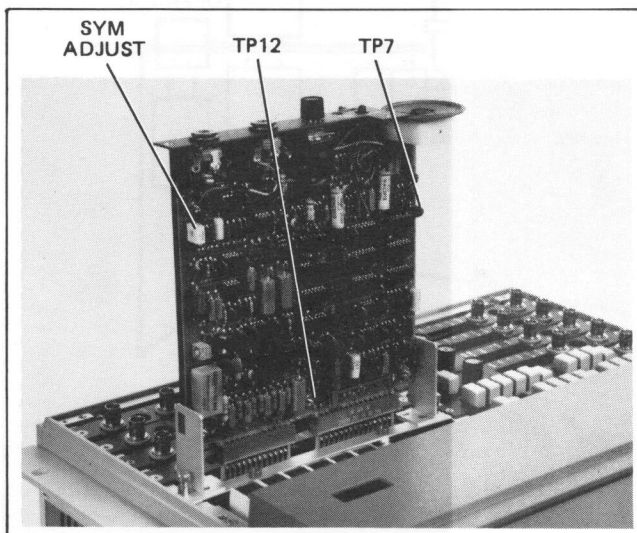

Figure 5-19. Servo Phase Balance (SYM) Adjustment
- b. Remove Voice Channel/Servo Loop PCA A8 and re-install it on the large extender card (03968-60965) (see Figure 5-19).
- c. Connect the oscilloscope HI input to TP7, and the LO input to TP12 (see Figure 5-19).
- f. Adjust the SYM trimmer (see Figure 5-19) for a 50% average duty cycle.